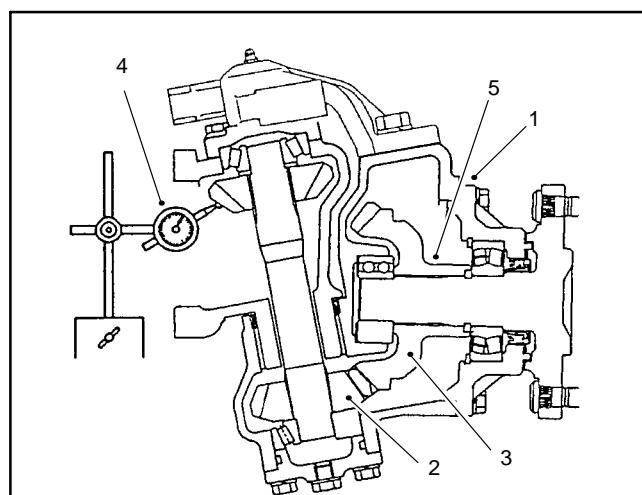

Figure 21
9. Remove the bevel gear case/axle case assembly from the axle support. Coat a new O-ring with grease and temporarily install the axle cover assembly. Position a dial indicator at the tooths center. Prevent the axle from turning and measure the lower bevel gear to axle gear backlash (Fig. 21).